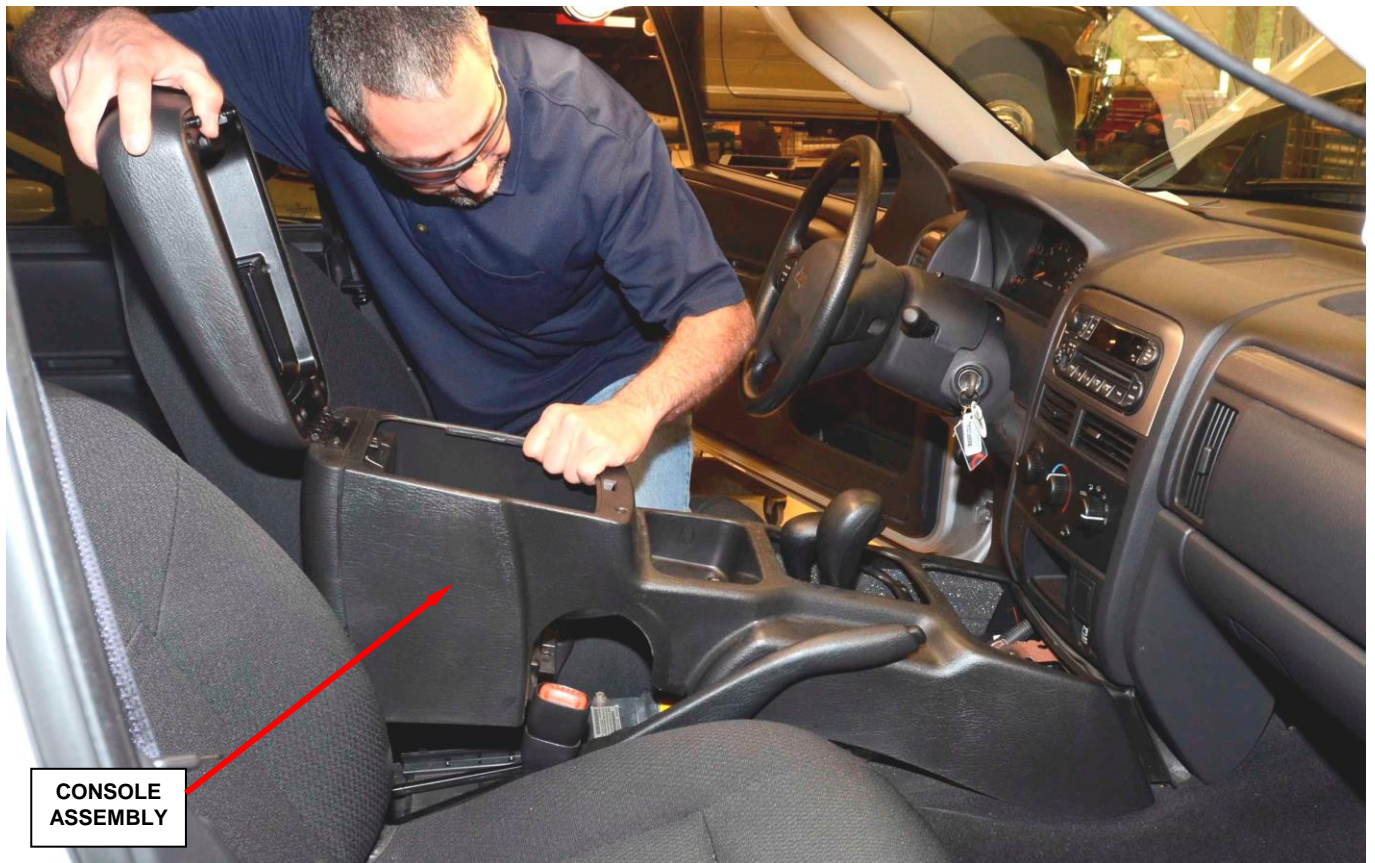

Figure 15 – Remove/Install Center Console
e. Remove and save the center console assembly (Figure 15).